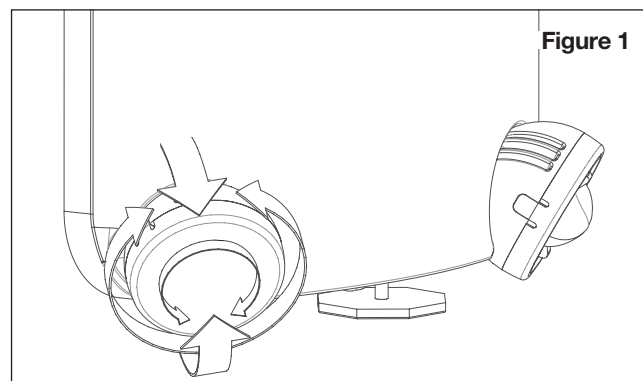

Figure 1
Step 7 Adjust the heads as needed. The LEM heads utilize a highly directional beam, so the head is adjustable in 3 axes, not the usual 2. (see Fig. 1)